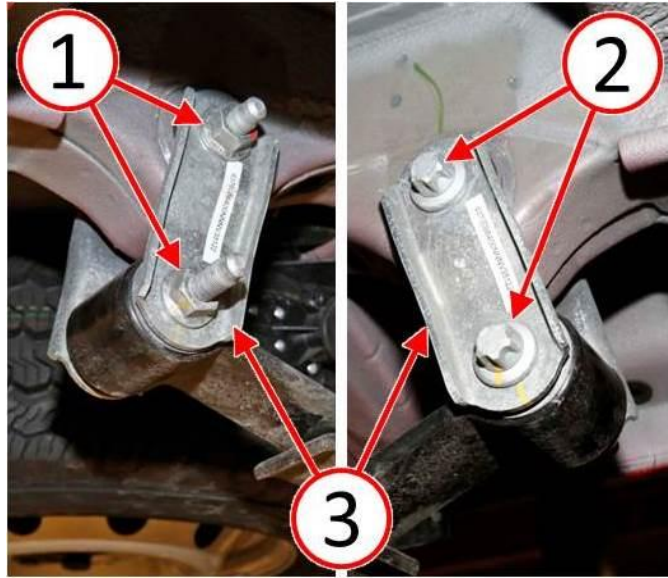

Fig. 5 Remove Spring Shackle
6. Remove the spring shackle nuts (1), bolts (2), and shackles (3) (Fig. 5)